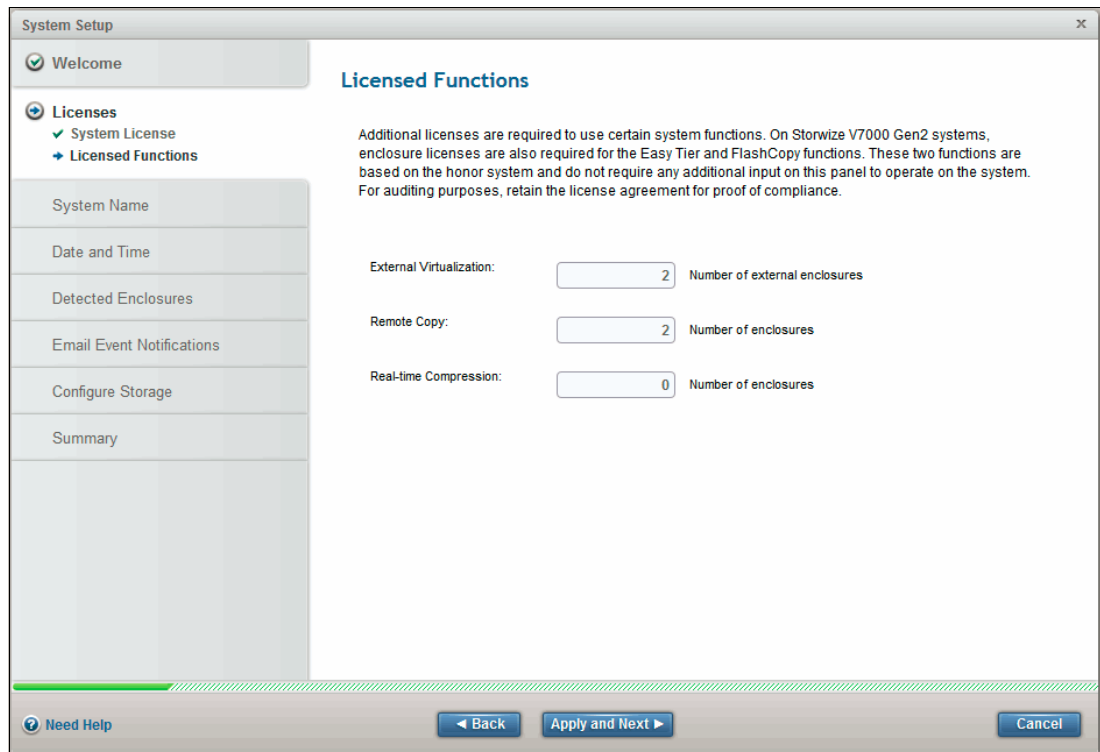

Figure 5-12 Licensed functions
5. You can now enter the purchased licenses for this system, as shown in Figure 5-12.